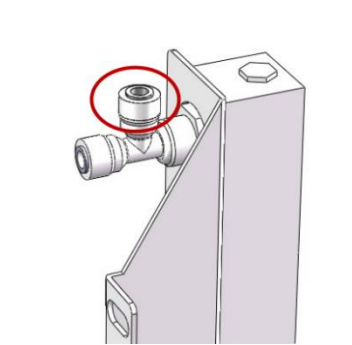

Figure. 6
6. Screw the connector to the position shown in the picture, note that the side connector should be facing upwards vertically, as shown in Figure.6